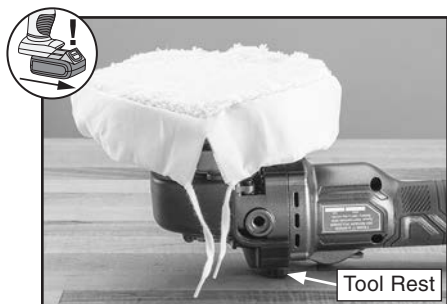

Figure 14. Tool placed on tool rest and bonnet placed loosely on backing pad.
2. Place tool on tool rest with backing pad upright (see **Figure 14**).
3. Cover backing pad with bonnet (see **Figure 14**).